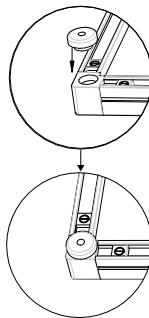

Fig. 1
1. The included four foot pads can be mounted to the corners of the solar panel to help increase heat dissipation (see figure 1).